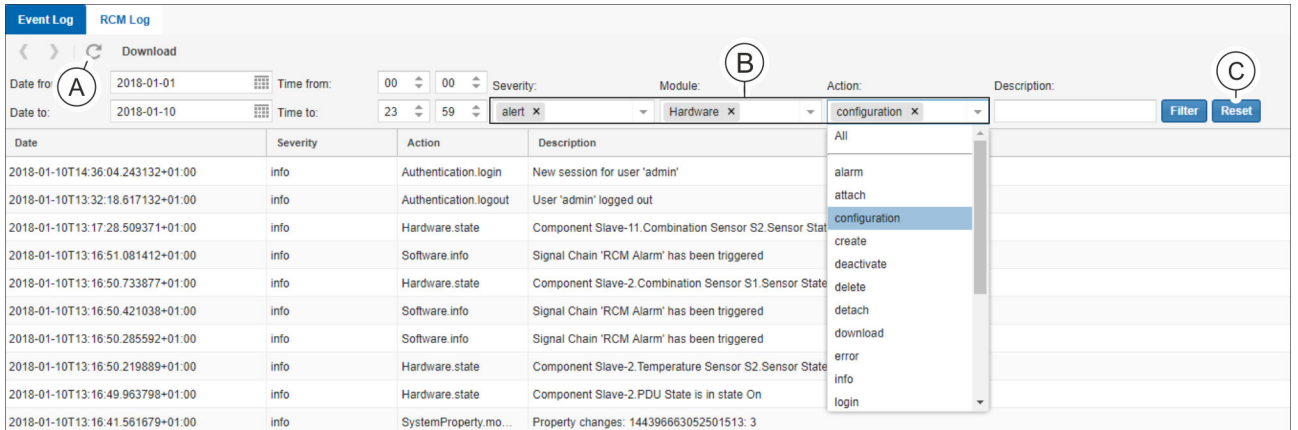

Fig. 121: Removing a filter
1. ➔ Press the **x** button in the corresponding filter (Fig. 121/ⓑ) to remove the filter. Alternatively, remove all filters by clicking the “Reset Filter” button (Fig. 121/ⓒ).
2. ➔ Click the **↻** button (Fig. 121/ⓐ).